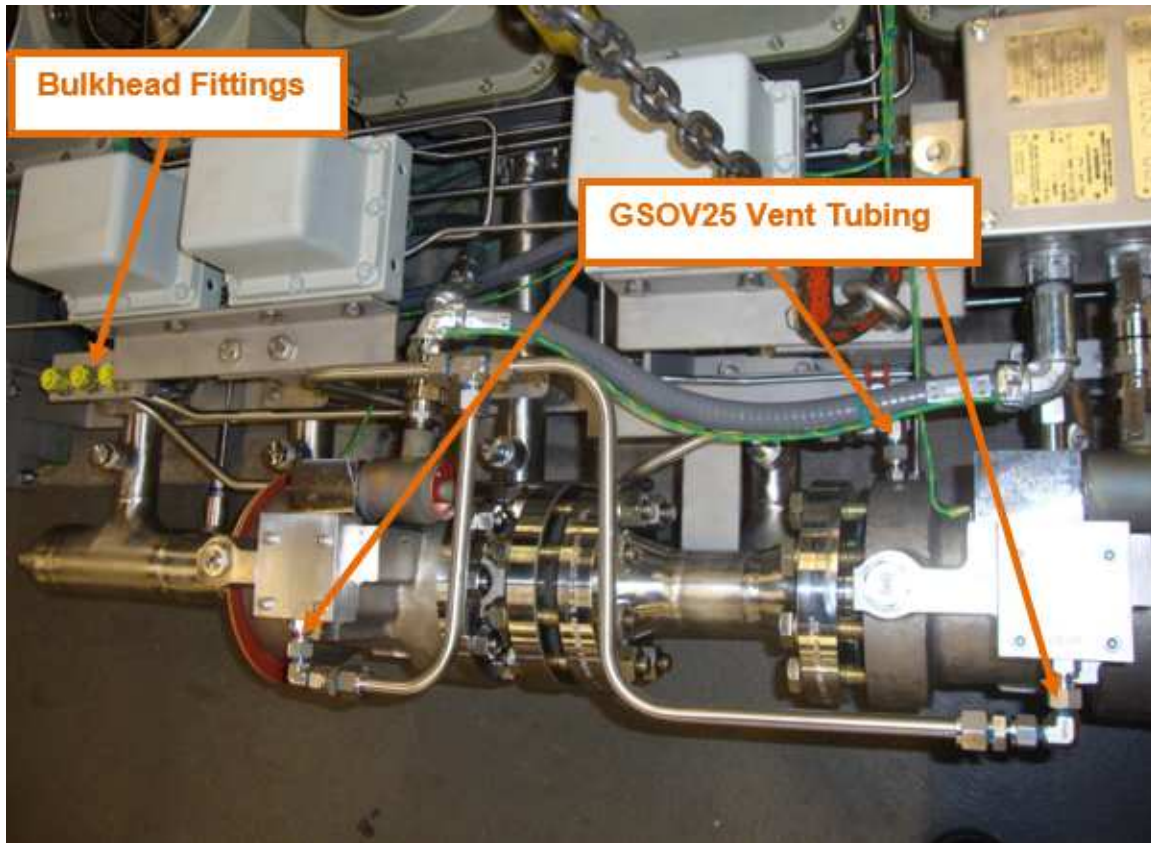

Figure 2-10. GSOV25-1/2 Vent Tube Removal
1. Disconnect GSOV25 vent tubing at locations shown in Figure 2-10. The bulkhead fittings must first be loosened before the vent line tubing can be removed.